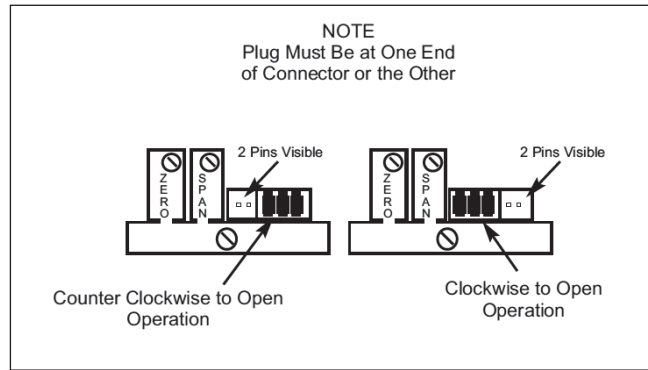

Fig. 49. Plug setting for transmitter operation.
- The potentiometer cable can now be connected back to the transmitter board terminal pins. The positioning of the terminal plug is done according to valve operation orientation (see Fig. 49). The plug must always be aligned to one end or the other of the five pin terminal on the transmitter board.